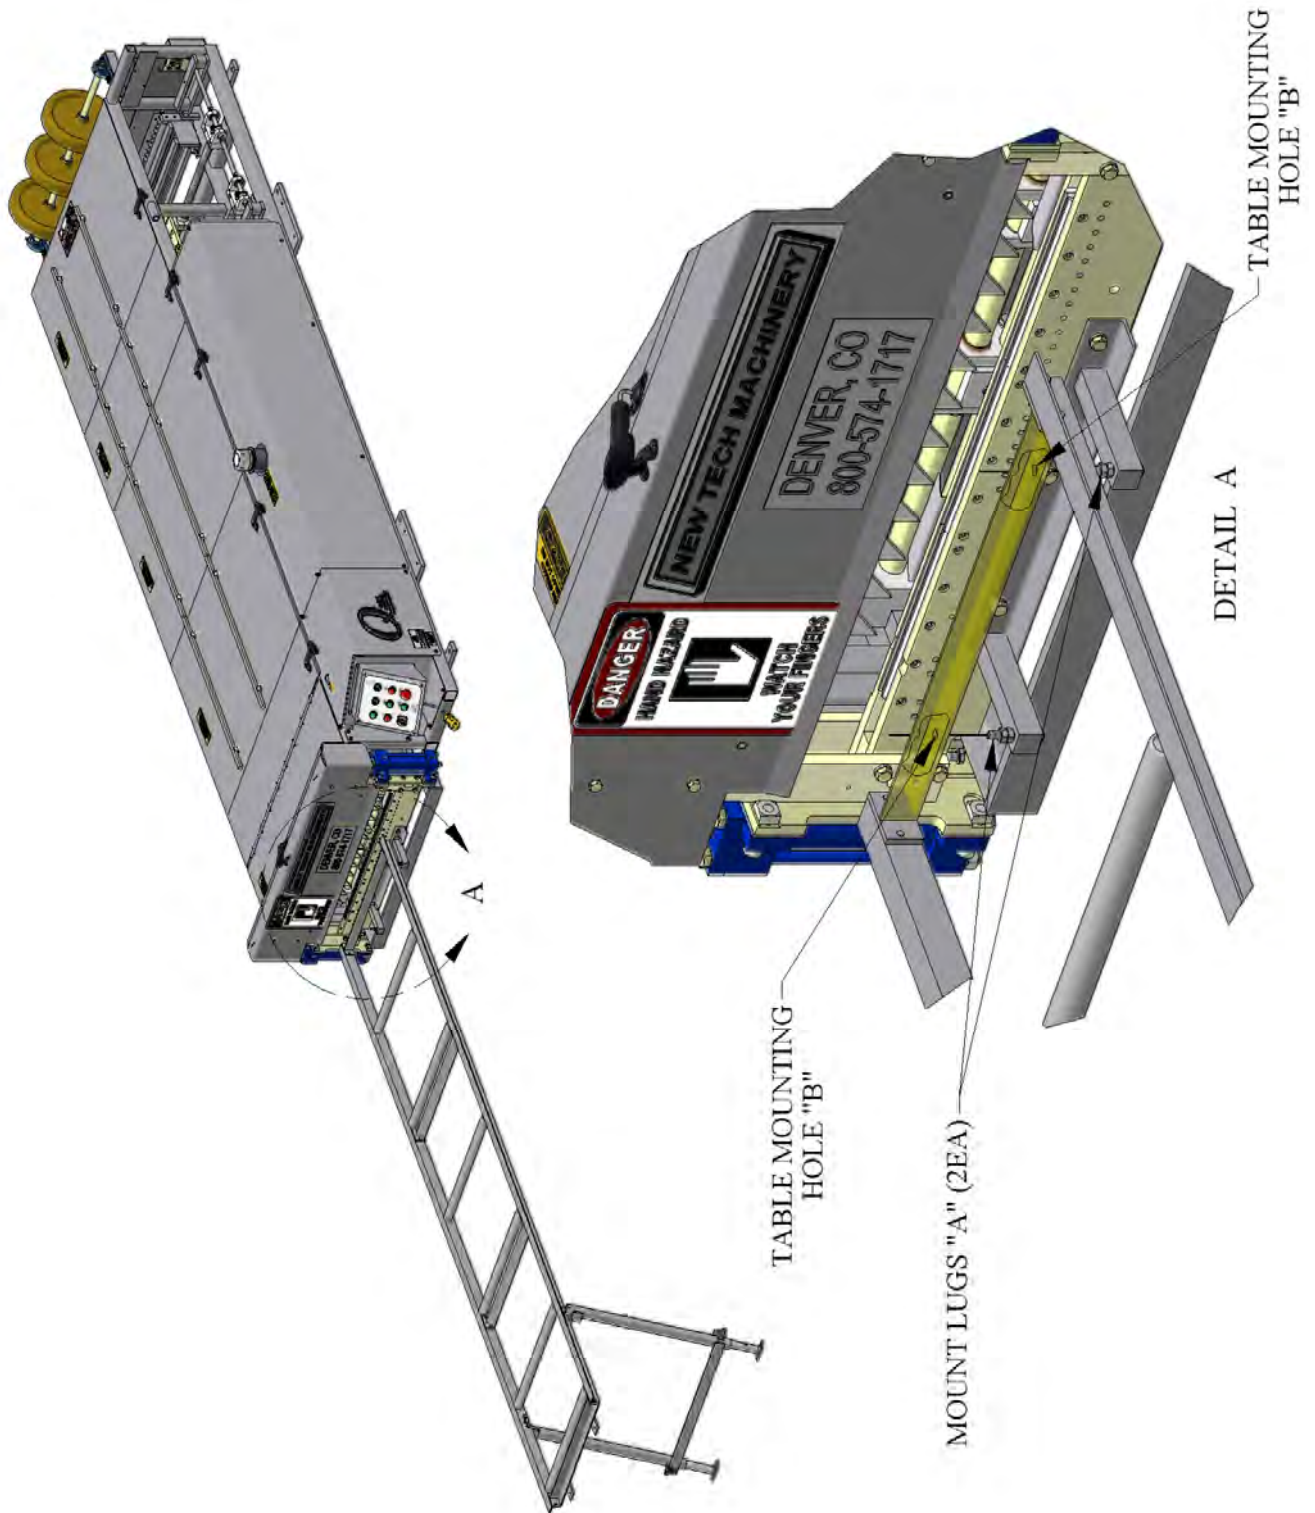
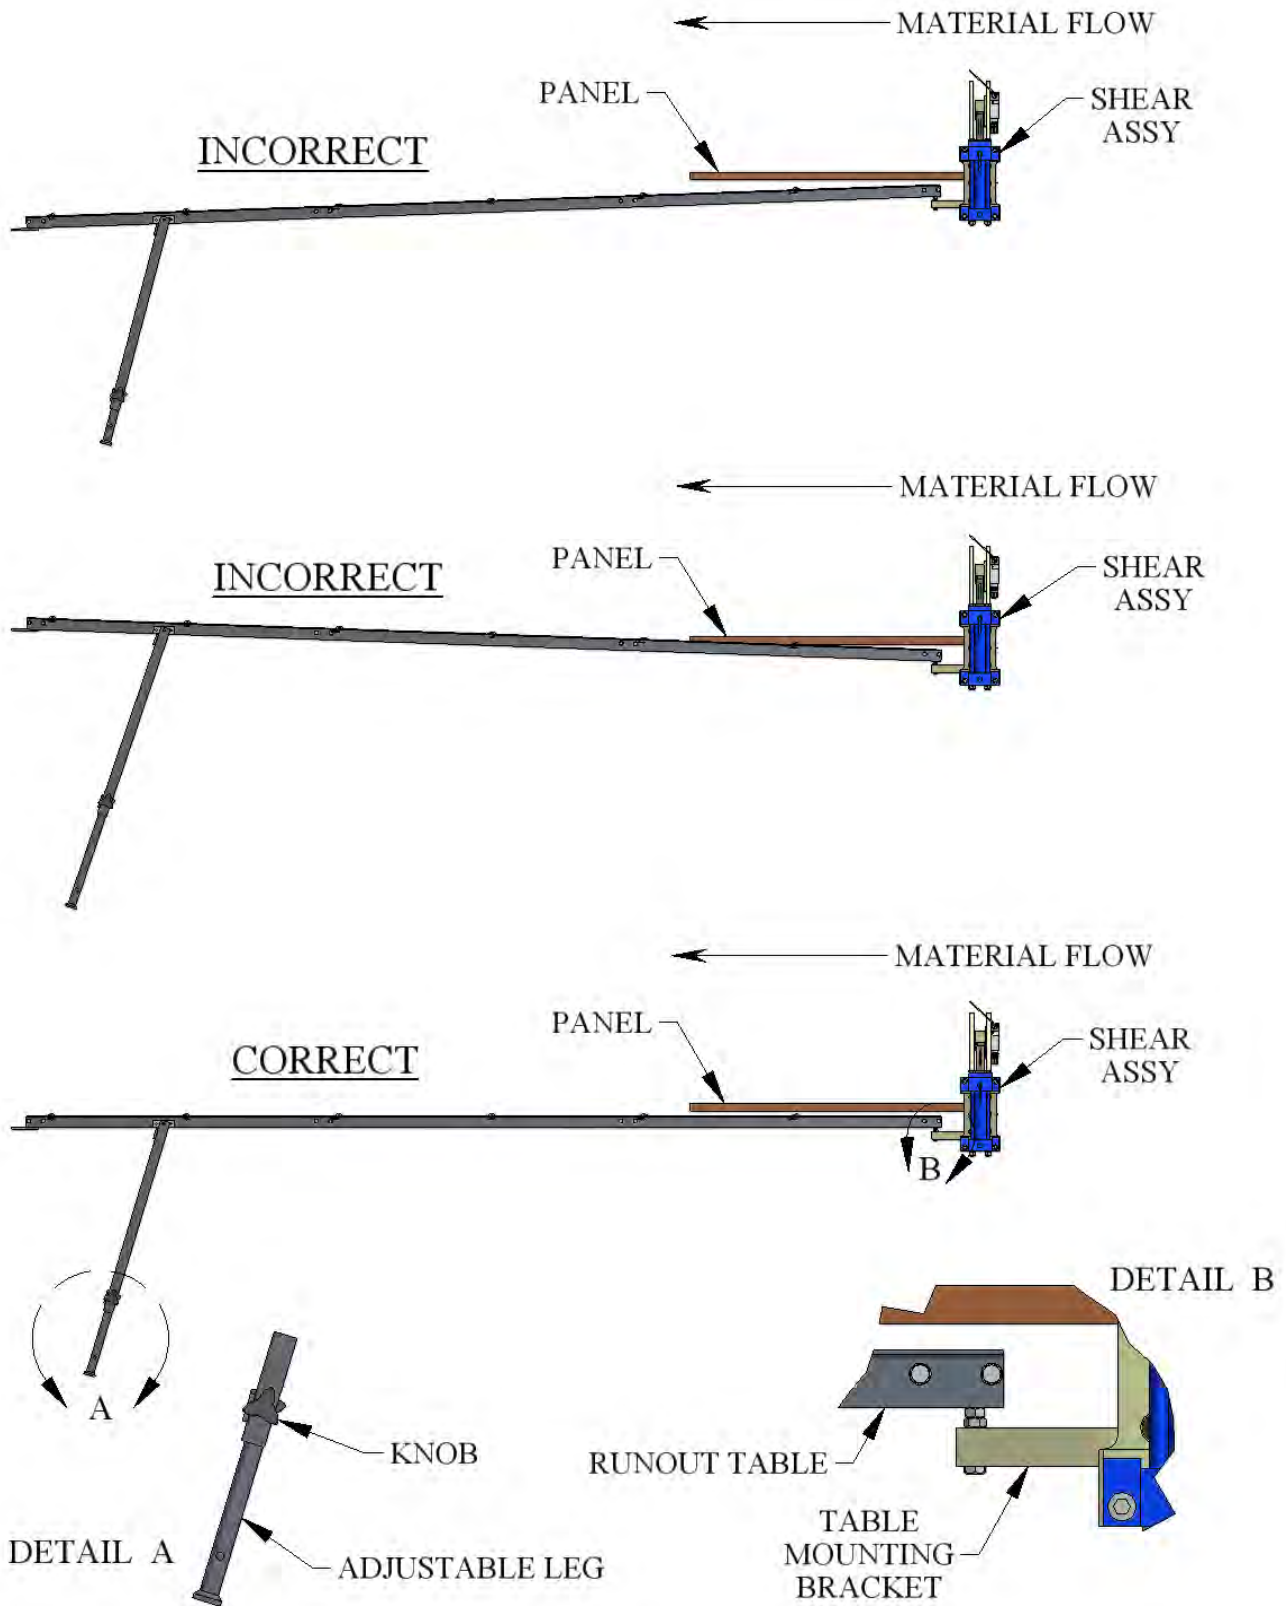

Figure 32: Run Out Table
Figure 33: Run Out Table Setup
(Figure 32 & Figure 33)
4. Loosen the 2 knob-handles on the leg assembly and allow the legs to fall free. Sight the height of the table on the left and right side adjusting it level to the machine using the knob-handles to lock the legs in place. See Figure 33 for correct and incorrect set up and details.